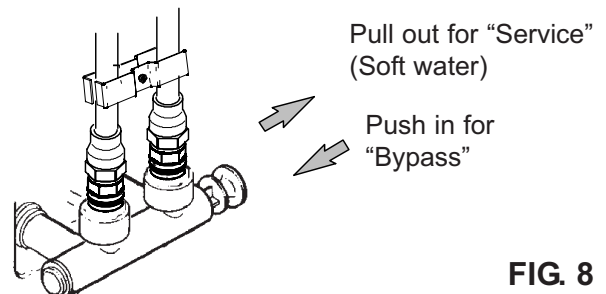
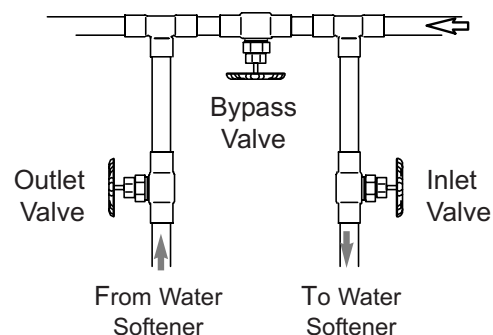

FIG. 8
FIG. 9
Always install either a single bypass valve (provided), as shown in Figure 8, or, if desired, parts for a 3 valve bypass system (not included) can be purchased and assembled, as shown in Figure 9. Bypass valves allow you to turn off water to the softener for maintenance if needed, but still have water in house pipes. Pipe fittings must be 3/4" minimum.
**CAUTION:** The house cold water pipe (metal only) is often used as a ground for the house electrical system. The 3-valve bypass type of installation, shown in Figure 9, will maintain ground continuity. If you use a plastic bypass valve at the unit, continuity is broken. To restore the ground, do the following:
2. Place the single bypass valve or 3 valve bypass in "bypass" position. See Figures 8 & 9.